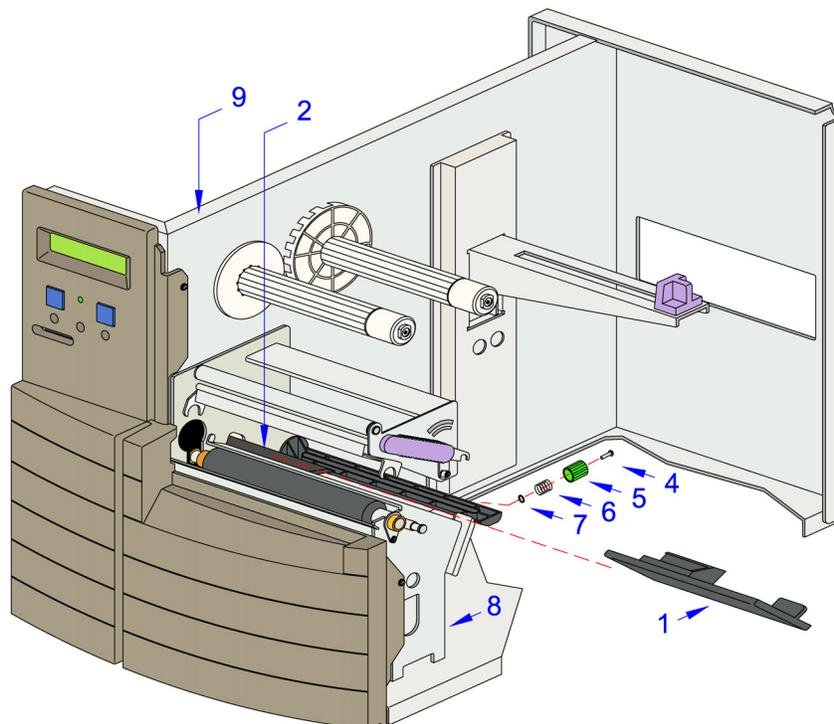

Figure 7-12, Label Sensor Replacement
3. From the printer's print side, detach media plate (1, Figure 7-12) from defective label sensor (2).
4. Locate and remove screw (4) securing green, label adjustment knob (5).
5. Lift away knob (5), spring (6), and nylon washer (7) from defective label sensor (2).
7. Manipulate defective label sensor (2) upward from within print assembly (7).
8. Route the replacement label sensor's wiring harness through the slot in the printer's center frame (9) and then manipulate the sensor downward into print assembly (8).
9. Apply nylon washer (7), spring (6), and green knob (5) to replacement label sensor (2) and secure using screw (4).